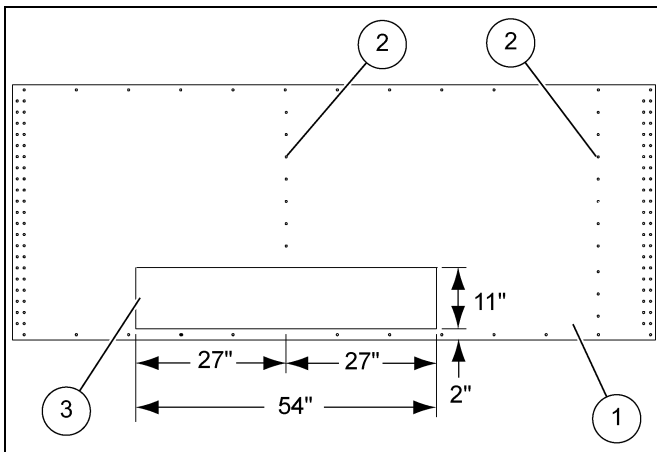

Figure 1 Viewed from Inside of Bin
1. Transition opening location must be centered on sidewall stiffener. (See Figure 1.) Transition opening must be cut 54" x 11" and 2" above the concrete. **Remove stiffener before cutting sidewall.** Cut sidewall to dimensions given to ensure proper fit.